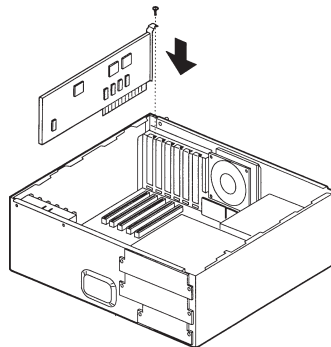

Figure 2-4. Inserting a DigiBoard.
**4) Press the expansion board in place (Figure 2-4).**